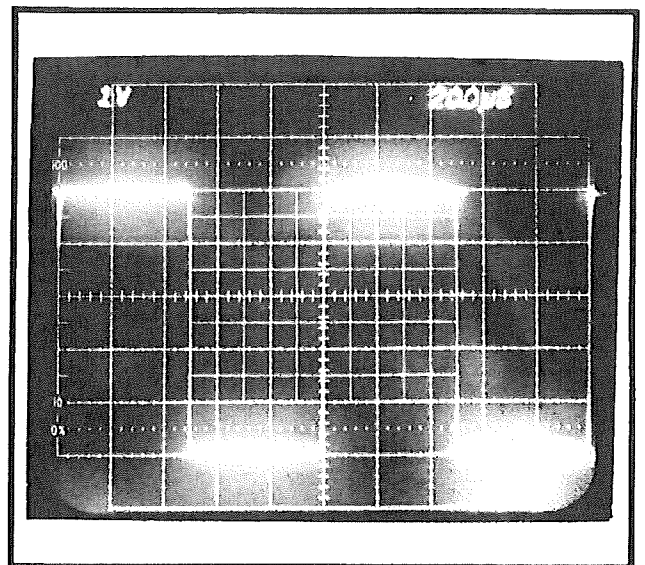

Figure 3-13. Volts/Div Display; 1 V, 5 Div
d. Observe that the UUT displays a square-wave signal of approximately 5 divisions peak-to-peak. The signal should have flat tops and sharp corners to verify proper oscilloscope vertical amplifier alignment. (See figure 3-13.)